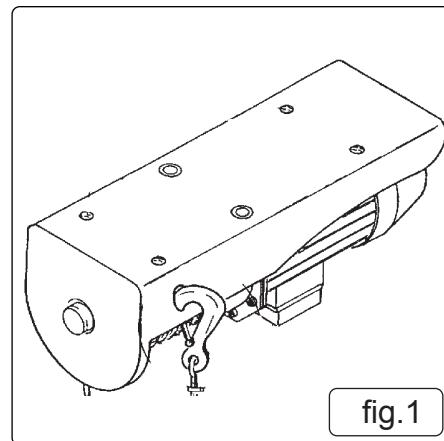

fig.1
- 4.2. Ensure that the selected hoist support is sufficiently strong and will also hold the hoist in a horizontal position. If alternative mounting brackets are fabricated, ensure that these are at least as strong as those provided, and align with the mounting holes (fig.1.A) in the hoist.